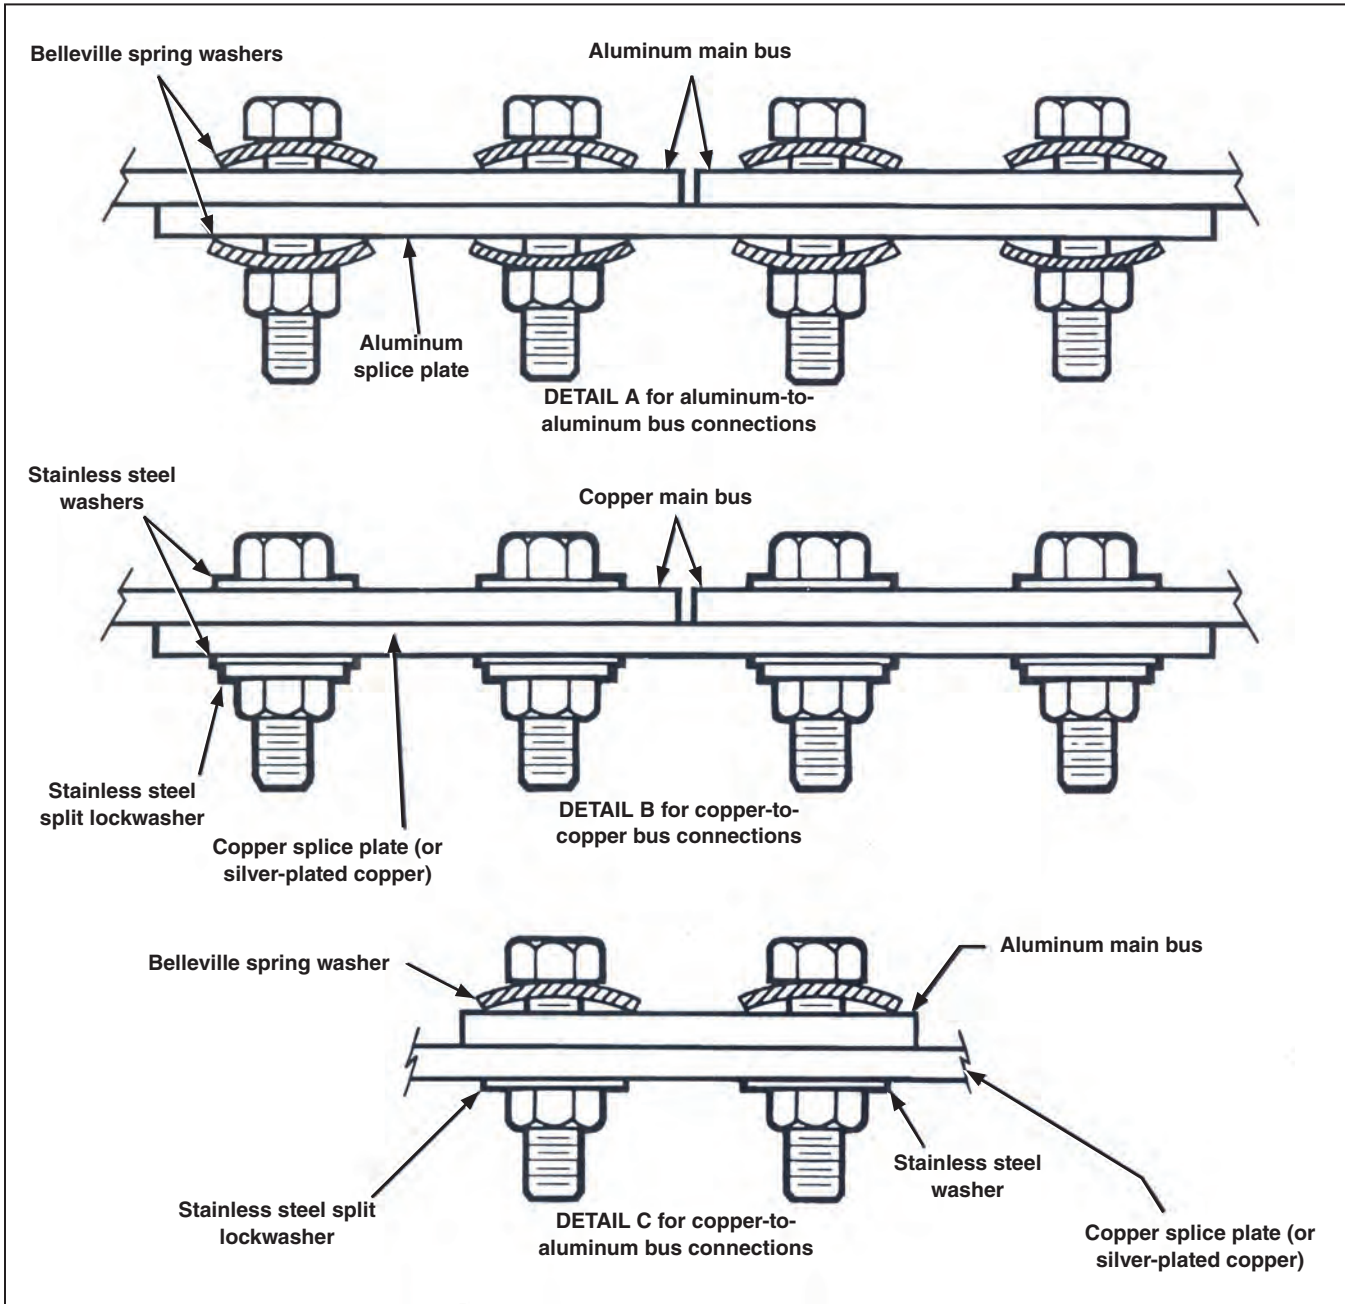

Figure 11. Installation of inter-unit bus splices.
- (a) ***For aluminum-to-aluminum bus connections:*** Place the splice plate on the bottom of the ends of main bus sections or on the side of the ground bus facing the interior of the bay. Make the connections using one Belleville washer under the head of each bolt and one Belleville washer under each nut. The bolts must be installed with the bolt head on the topside of the main bus. Belleville washers must be installed with the outer ring of the cup toward the bus. See Figure 11 on page 18 (Detail A). Tighten all splice bolts and nuts to a torque of 50 foot-pounds, as indicated by a torque wrench. If a torque wrench is not available, tighten until the Belleville washers are flat, and then loosen one-half turn.
- (b) ***For copper-to-copper bus connections (that include silver or tin-plated copper connections):*** Place the splice plate on the bottom of the ends of the main bus sections and on the side of the ground bus facing the interior of the bay. Make the connections using one stainless steel flat washer under the head of each bolt and one stainless steel flat washer plus one split lockwasher under each nut. The bolts must be installed with the bolt head on the topside of the main bus. See Detail B of Figure 11 on page 18. Tighten all splice bolts and nuts to a torque of 35 foot-pounds as indicated by a torque wrench. If a torque wrench is not available, tighten until the split lockwasher is flat.
(c) ***For copper-to-aluminum bus connections:*** Place the splice plate on the bottom of the ends of the main bus sections and on the side of the ground bus facing the interior of the bay. Make the connections using one stainless steel flat washer against the copper-bus section and one Belleville washer against the aluminum bus section. The bolts must be installed with the bolt head on the topside of the main bus. See Detail C of Figure 11 on page 18. Torque the bolts to 50 foot-pounds or, in the absence of a torque wrench, tighten each bolt until the Belleville washer is flat, and then loosen one-half turn. Do not use lock-washers with Belleville washers.